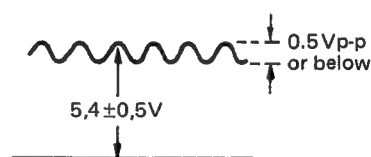

Figure 8-10.
2. Monitoring AN pin 2 with an oscilloscope (internal trigger), check that the requirements given in Figure 8-10 are met.